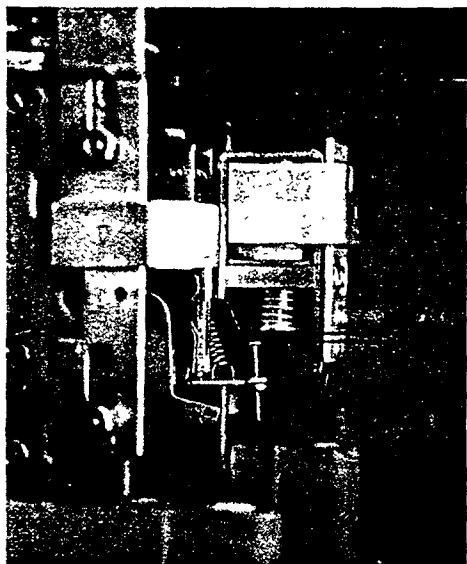

Fig. 8.
7. Set "A" dimension as shown in Fig. 8 below at $\frac{1}{16}$ inch.